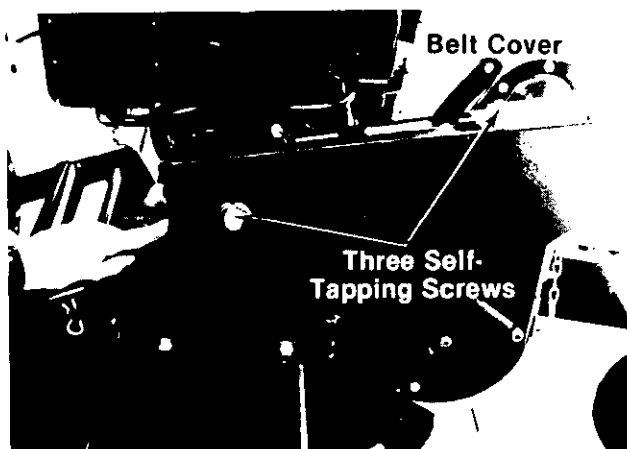

FIGURE 21.
3. Remove the belt cover by removing three hex head self-tapping screws with a 3/8" wrench. See figure 21.